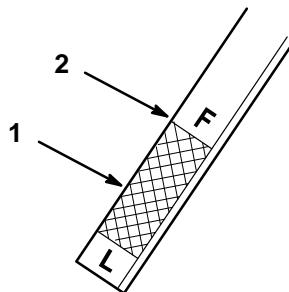

Figure 46
6. Slide the dipstick fully into the filler tube (Fig. 5). Pull the dipstick out and look at the metal end. When the transaxle is cold, oil should be in the operating range, below the FULL line on the dipstick (Fig. 46).